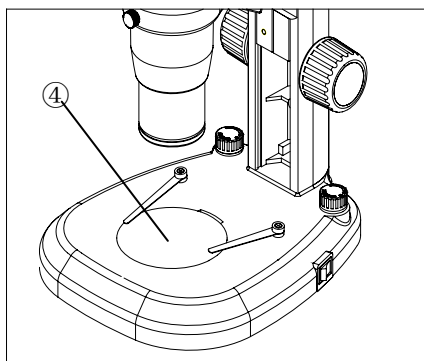

Fig.7
2.2.5 Mounting glass stage plate (Fig.7)